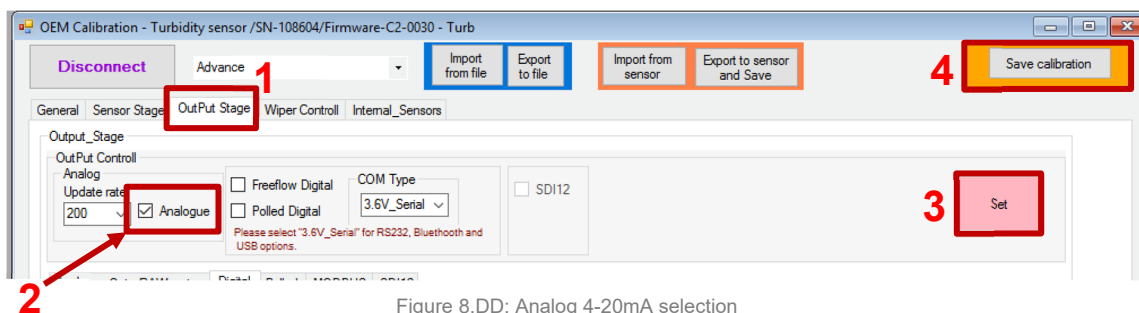

Figure 8.DD: Analog 4-20mA selection
- Select “OutPut Stage” option (Figure 8.DD: Analog 4-20mA selection#1).